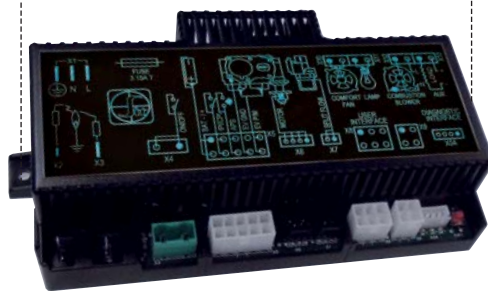

Fig. 4: Proflame 2 IFC Board installation.
2. Install the IFC in the appliance using the screws. (Fig. 4)